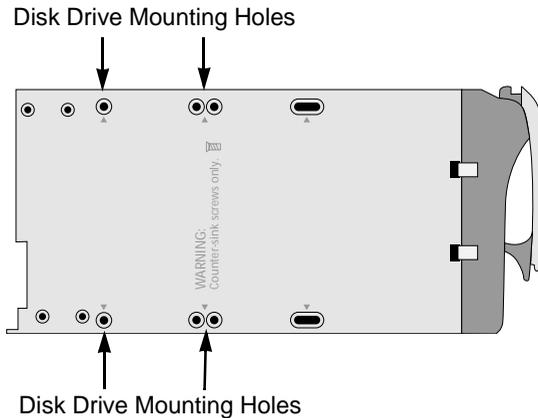

Figure 5. J300s unit drive carrier mounting holes
4. Insert the screws through the holes in the drive carrier and into the bottom of the disk drive (see Figure 5).